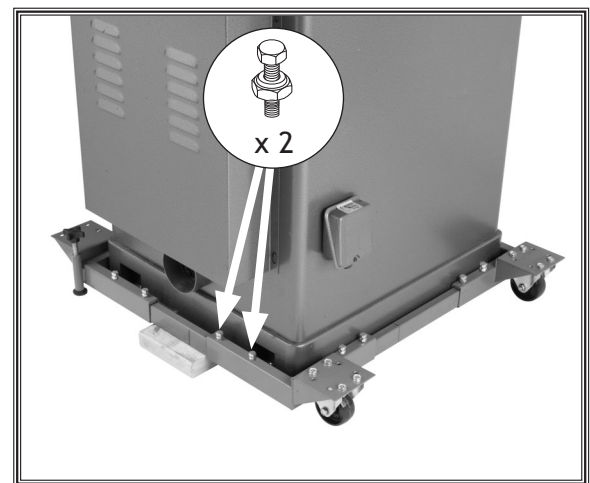

Figure 28. Rear fixed caster assembly secured to side rail.
20. Secure each side with (2) M8-1.25 x 25 hex bolt and 8mm lock nut assemblies, as shown in **Figure 28**.